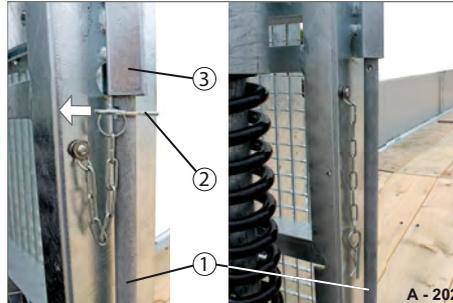

Fig. 81 Unlocking the operating pole
- ▶ Pull the spring pin out of the (Fig. 81/2) bore hole of the operating pole (Fig. 81/1).